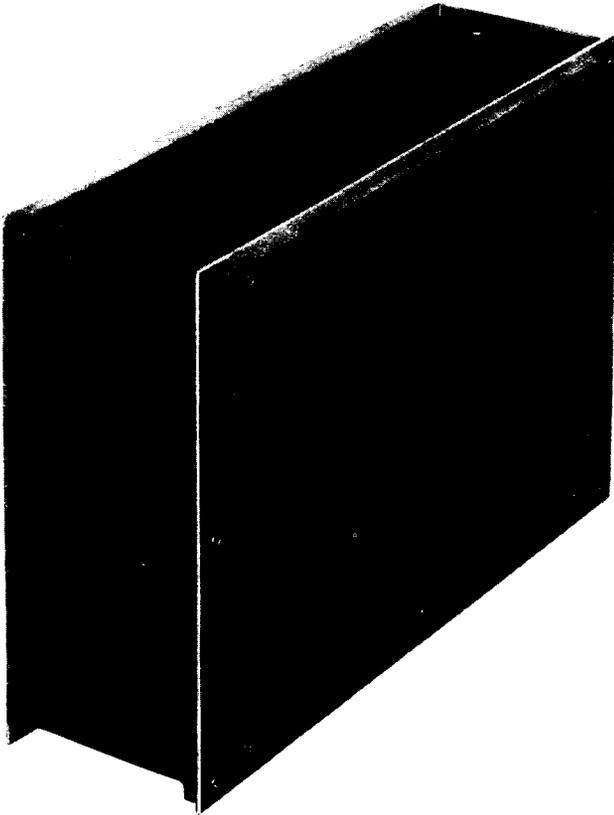

Fig. 3—210A Power Unit
**2.07** The power unit (Fig. 3) consists of a printed wiring board, discrete circuitry, two power supplies, and associated hardware. Printed wiring board terminals are located on the rear of the power unit, enabling it to plug into the 41B2 data mounting. The power unit is approximately 8 inches high, 12 inches deep, 3 inches wide, and weighs 6 pounds.